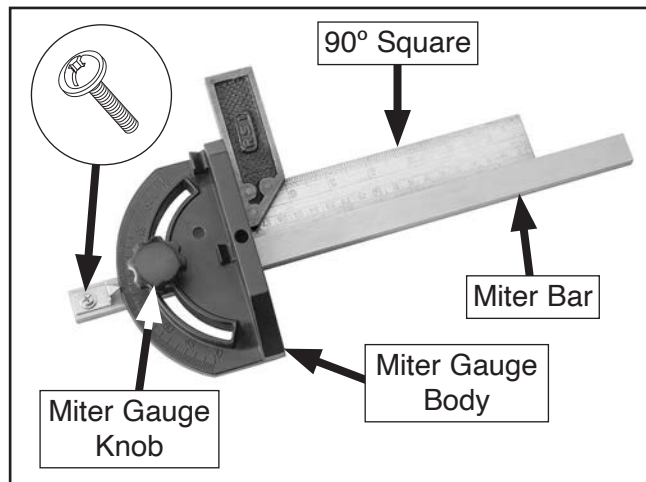

Figure 48. Using 90° square to check miter gauge pointer accuracy.
1. Loosen miter gauge knob and adjust miter gauge until pointer points at 0° (see **Figure 48**), then tighten knob.
2. Use 90° square to check if miter bar is square to miter gauge body (see **Figure 48**).
3. Loosen pointer screw (see **Figure 48**), adjust pointer to point to 0° when miter bar is square to miter gauge body, then tighten screw to secure.